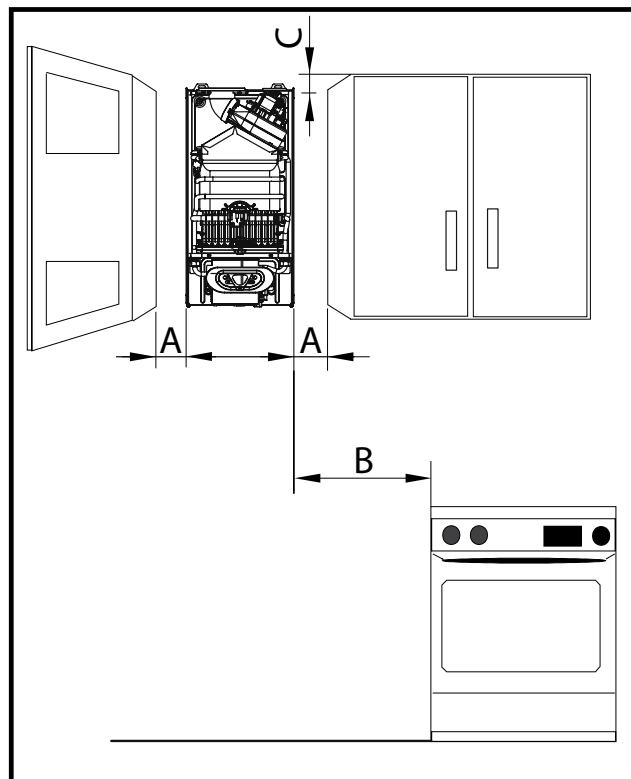

fig. 7 - Minimum distances
- 1 - Open the packaging, and you'll find an assembly template for the unit inside. Place it on the wall at the appropriate height (**be sure to observe the distances, fig.7**), and make sure the template is as horizontal as possible (using a level).